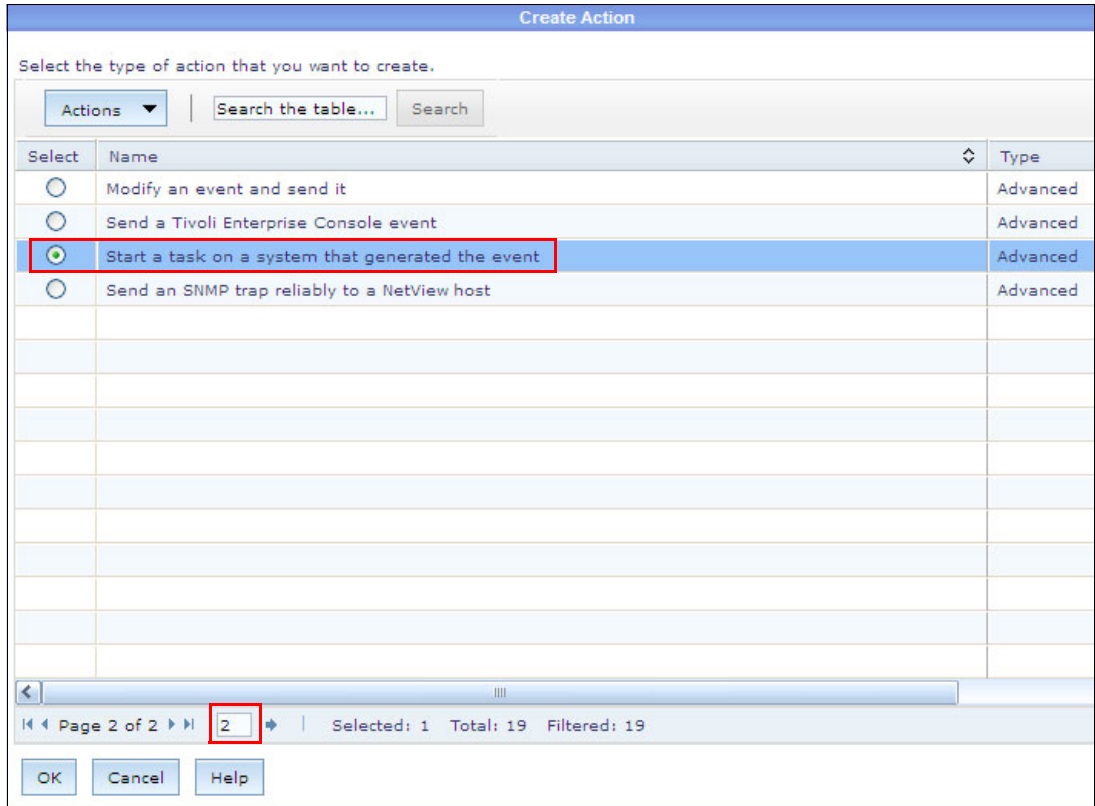

Figure 11-72 Create Action window Actions list
7. Move to page 2 of the Actions list and select **Start a task on a system that generated the event**, as shown in Figure 11-72. Click **OK**.